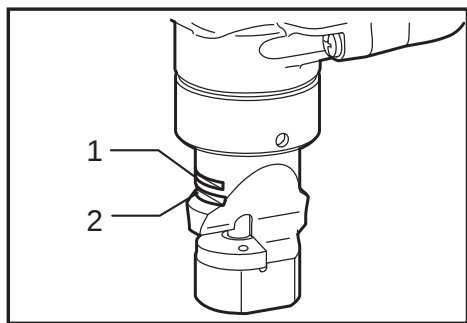

Fig.1
- **Fig.1:** 1. Stainless steel gauge 2.5 mm (3/32")